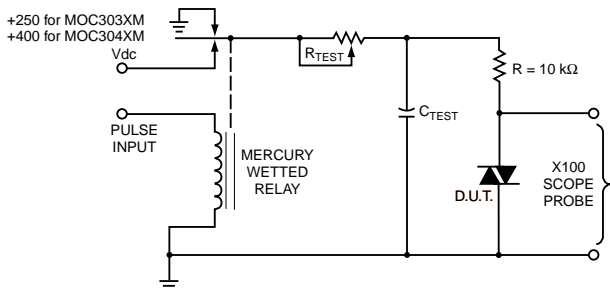

Figure 9. Static dv/dt Test Circuit
| Critical Rate of Rise of Off-State Voltage | $I_F = 0$ (figure 9, note 3) | dv/dt | All | 1000 | | | V/ μs |
- This is static dv/dt. See Figure 9 for test circuit. Commutating dv/dt is a function of the load-driving thyristor(s) only.